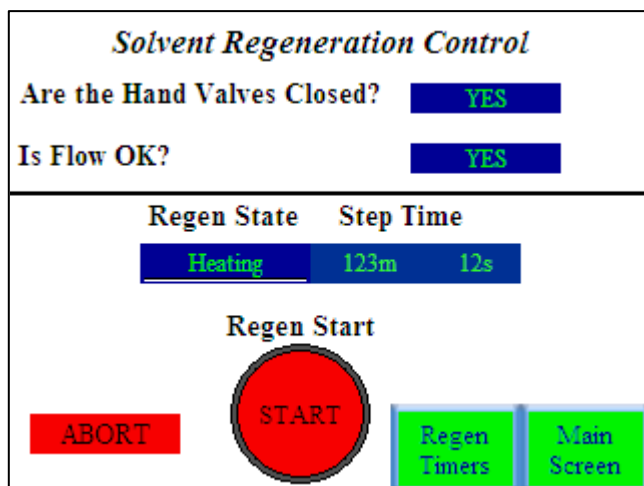

Figure 45 Solvent Regeneration Control screen
- 5 Press the START button (Figure 45).
- 10 Upon completion of the solvent regeneration, open the column isolation valves (B & C), then close the Solvent by-pass valve (A).